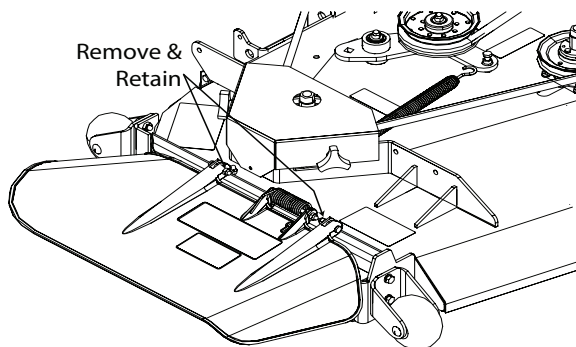

Figure 3-1. Removing the Discharge Chute
3. Remove the discharge chute from the machine. See Figure 3-1.